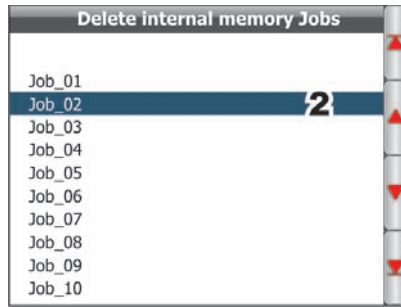

Fig. 151
- 2 Scroll down the job list (Fig. 151) and select the files to delete;